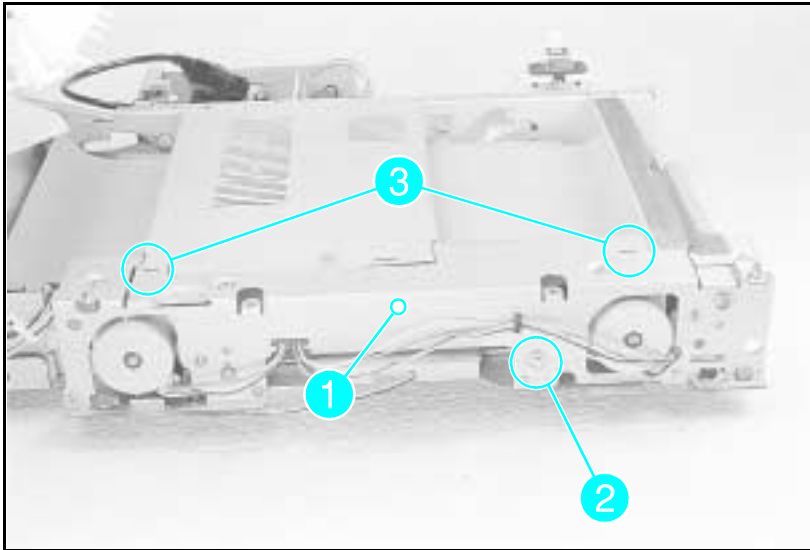

Figure A-20 **Holding Tray Belt Cover Plate**
- 1 Remove all the screws securing the plate (see Figure A-20, callout 1).
- 2 Remove (1) E-clip shown in Figure A-20, callout 2.
- 4 Release (2) latch points shown in Figure A-20, callout 3.